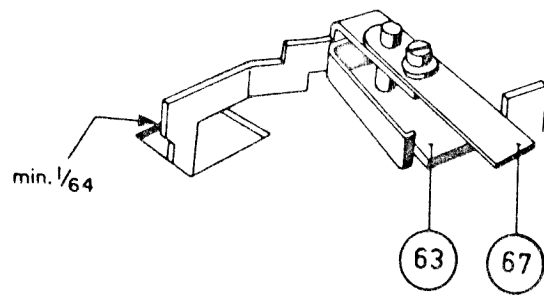
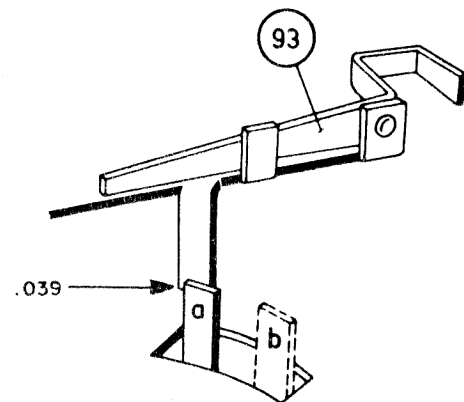

Fig.13
Fig.14
The stopping strip in bracket 169 is kept in its upper position by the spring 206. When the last record drops onto the turntable, the loading arm 174 also drops down. The loading arm holds down the stopping strip. When the last record has finished playing, strip 17 moves backwards and moves along the switching-off bracket 63 (see Figure 13). When the leaf spring 67 hits against the stopping strip the switching-off bracket is turned. The lug of switching-off bracket which protrudes through the top of strip 17, turns the blocking bracket (see Figure 14). The lug of this blocking bracket projecting from a slot in mounting bracket 2, moves from position b to position a. In the latter position, the lug is in front of the lug of scanning bracket 93 which faces downwards. The pick-up arm is now checked.
2. The nylon gear must be turned anti-clockwise by hand until strip 17 has taken up the changing position (roller against the oblique side of the strip). The spindle of the loading arm must be inserted into the proper hole, so that the stopping strip is pressed down. If the leaf spring 67 is pressed against the lower end of the stopping strip, the projecting lug of the switching-off bracket 63 must be in contact with the side of the hole in strip 17 (see Figure 13).
3. After the last record has been played, the pick-up arm moves outwards. If the lug of scanning bracket, 93 facing down, is $1/32''$ beyond the blocking lug, the latter must slide from position B to position A (see Figure 14). If the two lugs are placed in line, the pick-up arm must be lowered exactly onto the support.